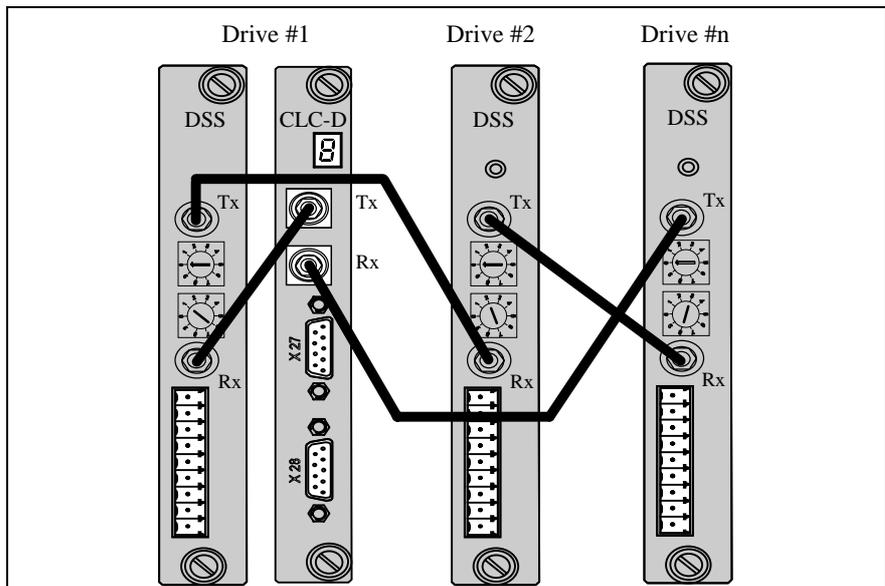
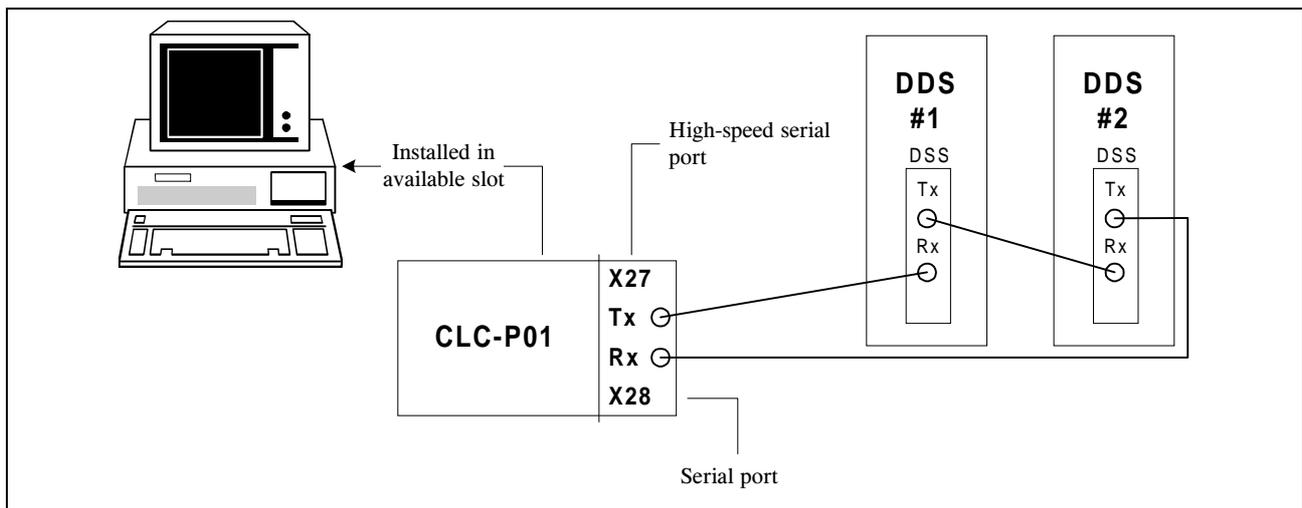

Figure 2-4: Fiber optic ring structure
Figure 2-9: CLC-P01 Installation
12. Once communications have been established, power down the Host PC and make the appropriate cable connections to the system as illustrated in *Figure 2-9: CLC-P01 Installation*. Refer to *Figure 2-4: Fiber optic ring structure* for details